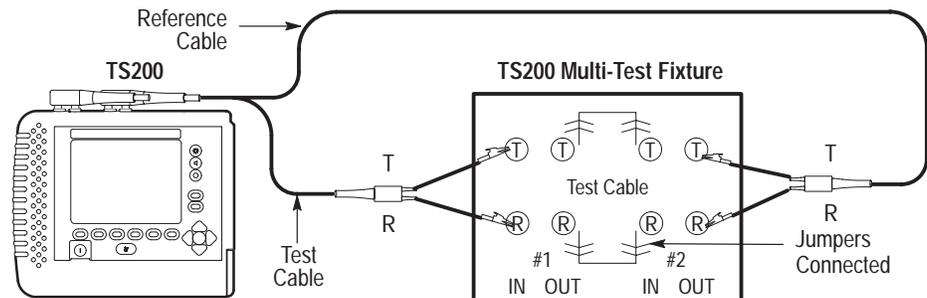

Figure 3-2: TDR Performance Checks
15. Connect jump wires as illustrated in Figure 3-2.